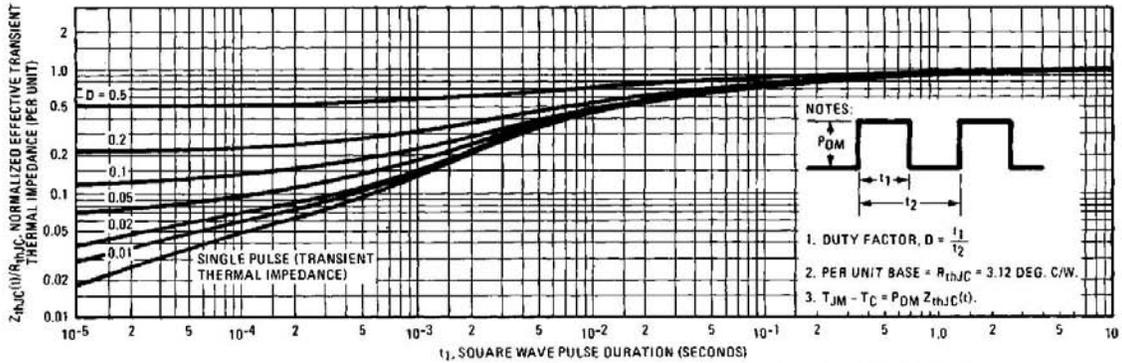

Fig. 5 — Maximum Effective Transient Thermal Impedance, Junction-to-Case Vs. Pulse Duration
① Repetitive rating; pulse width limited by max. junction temperature (See Figure 5)
③ $I_{SD} \leq -3.5A, di/dt \leq 95A/\mu s, V_{DD} \leq V_{(BR)DSS}, T_J \leq 150^\circ\text{C}$
② Not Applicable
④ Pulse width $\leq 300 \mu s$; duty cycle $\leq 2\%$.